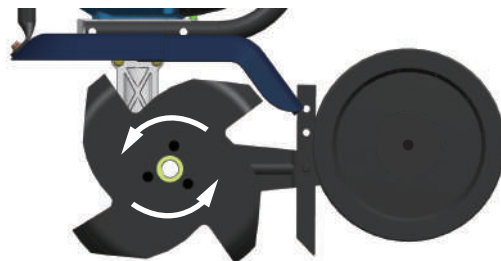

Figure 4
- The rotation direction of all tines should be installed in the forward direction (blade tips angle rearward), as shown in Figure 4.